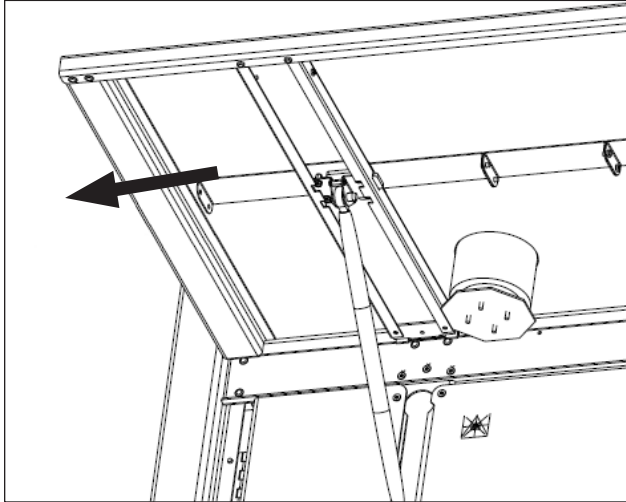

Figure 28: Tabletop Release Handle
3. Pull the tabletop release handle toward the outer edge, and gently lower the tabletop into the dropped position. Refer to **Figure 28**.